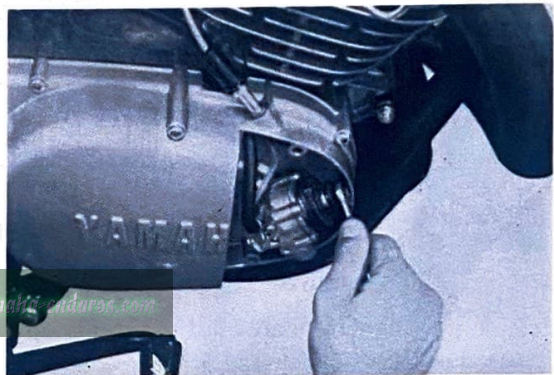
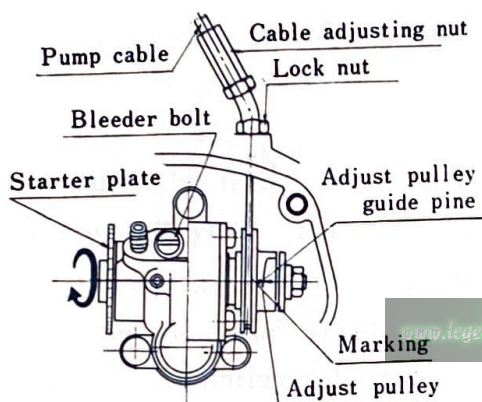

Fig. II-3-3
Fig. II-3-7
- a. Adjust the pump cable so that the marking (arrow) on the Autolube pump adjustment pulley is aligned with the guide pin. (see Figs. II-3-3 &-8). Begin by fully closing the accelerator grip, then slowly turning it back again so that the slack in the throttle cable is completely taken up. Next, adjust the pump cable so that the marking on the pump adjustment pulley will be aligned with the guide pin, as shown in Fig. II-3-7. The point of adjustment is at the end of the cable, just before it enters the case. Loosen the lock nut and screw the adjustor in or out, whichever direction is necessary to obtain the correct adjustment.